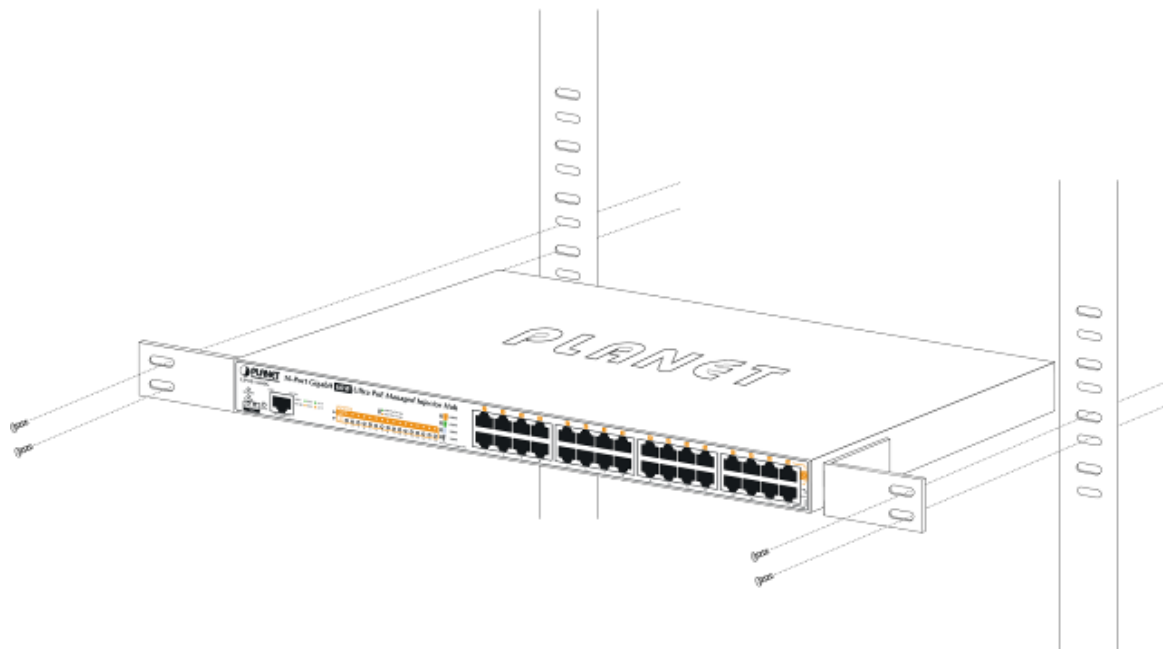

Figure 2-2-3: Mounting the 802.3bt PoE++ Managed Injector Hub in a Rack
Step 5: After the brackets are attached to the Injector, use suitable screws to securely attach the brackets to the rack, as shown in Figure 2-2-3.